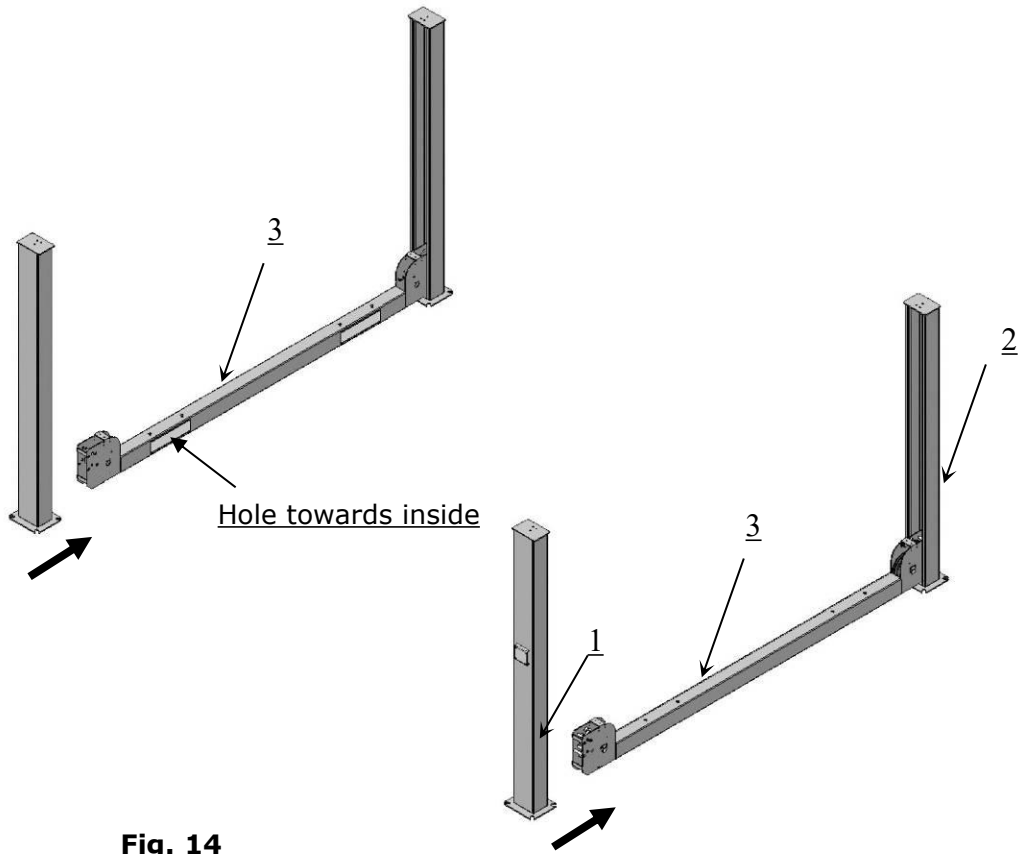

Fig. 14
D. Install cross beams (See Fig. 14).